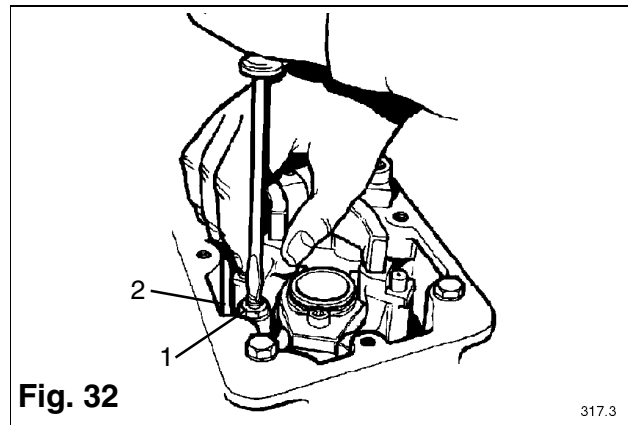

Fig. 32
Having rotated the engine to the correct position, check that the inlet and exhaust rockers have clearance before continuing with the next operation. Loosen the lock nut (1) on each bridge piece, screw the adjuster (2) out until the fixed side of the bridge piece rests on its valve, hold the top edge down with one hand then screw the adjuster down until you feel it touch the valve, thereby equalising valve lift. Tighten the lock nut without moving the adjuster (see **Fig. 32**).